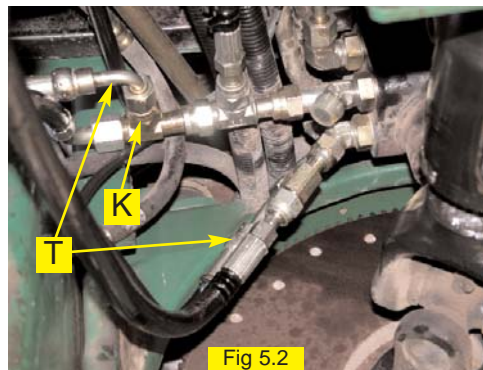

Fig 5.2
Install pressure and tank hoses (T) between the run-tee fittings installed on the orbital and the corresponding P and T ports on the hydraulic control block. On models requiring the #8 ORFF (J) run-tee on the tank port, it is necessary to use the expander fitting (K) to adapt the provided hose to the larger run-tee. (Figure 5.2 and 5.4)